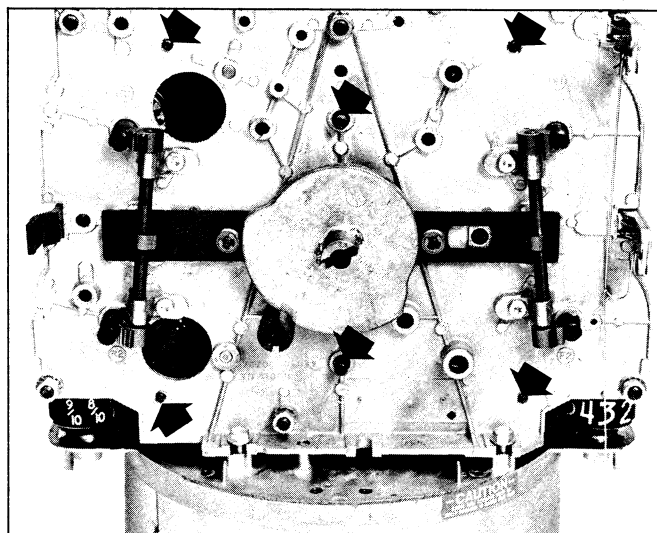

Figure 1. Counter Section Lubrication Points. (Left Side)
1. Oil the pinion shafts and horizontal money and quantity shafts on both sides of the counter section (Figures 1 and 2).